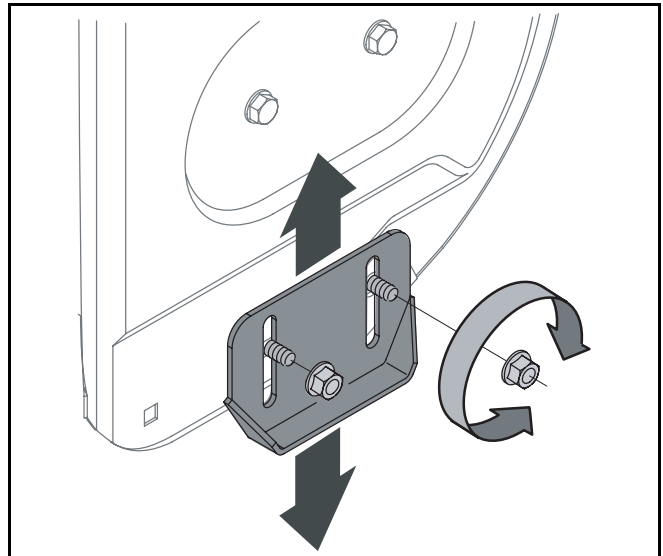

Figure 6
The space between the skid shoes and the ground can be adjusted. See Figure 6.
- To remove skid shoes, remove the four carriage bolts and hex flange nuts which secure them to the snow thrower. Reassemble new skid shoes with the four carriage bolts (two on each side) and hex flange nuts. Refer to Figure 6.